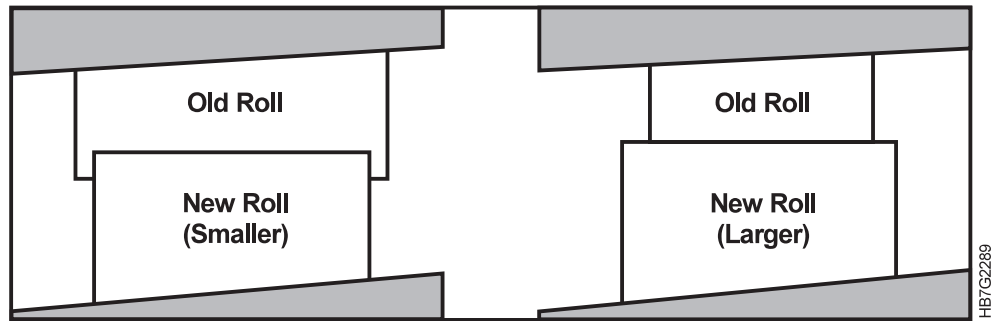

Figure 207. Width of New Paper Roll is Smaller or Larger than Old Paper Roll
- b If the width of the new roll is smaller or larger than the paper on the web, as shown in Figure 207, align the middle of the new paper with the middle of the paper on the web.